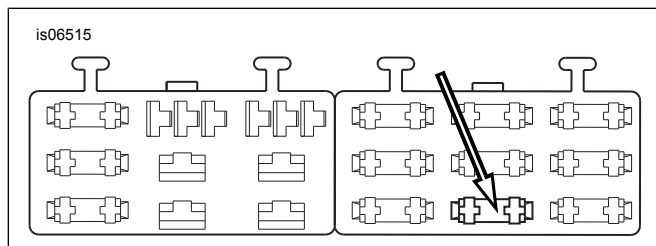

Figure 8. "OPEN" Fuse Block Cavity (2004-Later Dyna)
- See Figure 8. Locate the fuse cavity (1) indicated as "OPEN" on the fuse block cover in the right fuse block. Insert the terminal on the orange/white adapter wire until it stops. Refer to a nearby factory installed terminal for comparison to verify proper orientation and depth.